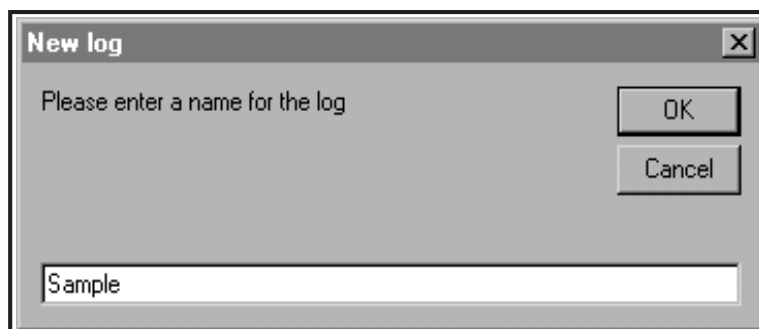

Figure 17: Log Name Dialog Box
5. Enter a log *file name* (“Sample” in this case) in the dialog box shown in Figure 17. Click on the [OK] option button.